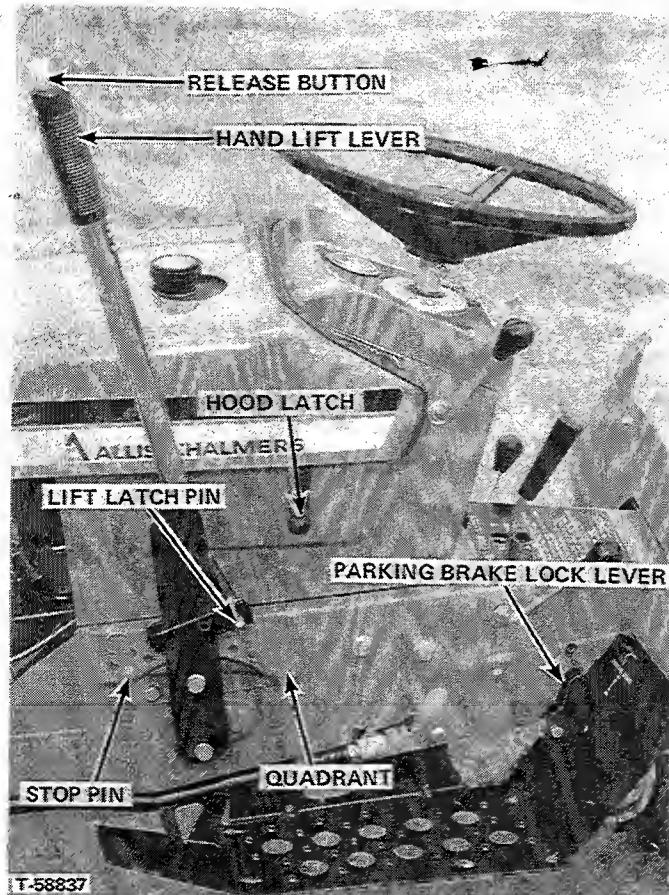
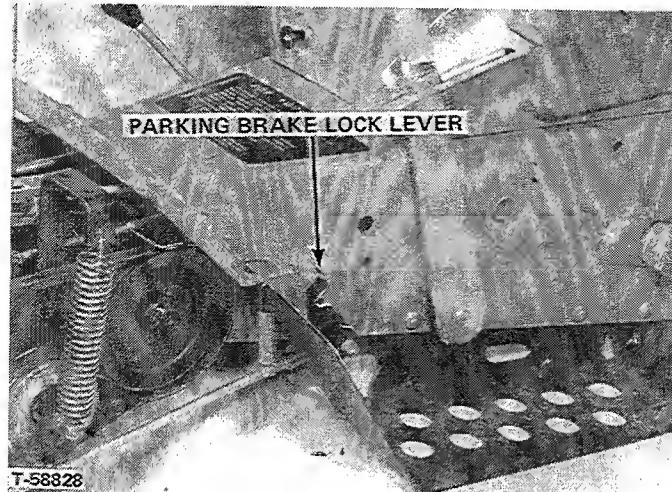

FIGURE 2 - 6 Speed Transmission Tractor
FIGURE 3 - Hydrostatic Transmission Tractor
8. PARKING BRAKE LOCK (Figures 2 and 3)
To lock the parking brake pull the parking brake lever up into a vertical position as shown in Figure 3. Lever can be more easily lifted and locked in position if foot brake is fully depressed first. Brake should be locked whenever operator leaves the tractor seat.
NOTE: Lock is located on right hand fender on hydrostatic transmission tractors (Figure 3), and on the L.H. fender for shuttle clutch and 6 speed transmission tractors (Figure 2).
9. HAND LIFT LEVER (Figure 2)